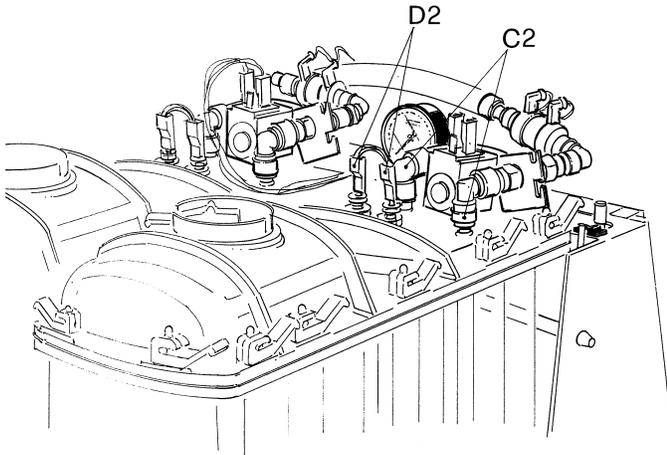
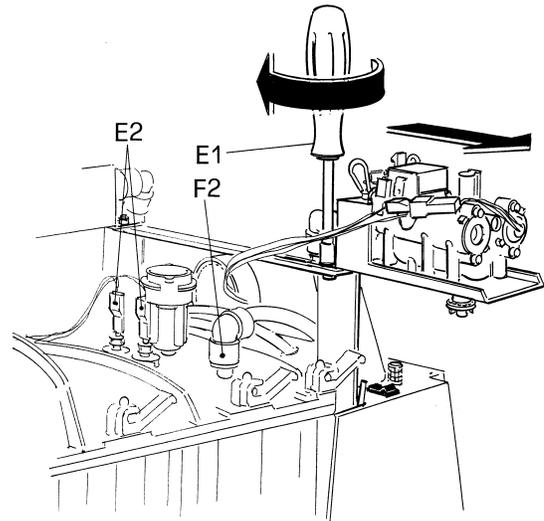
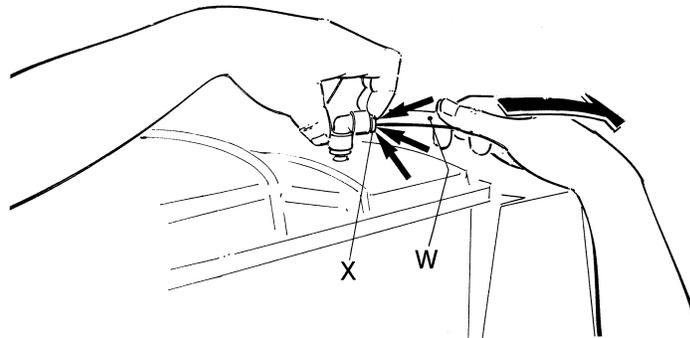

FIGURE 14. Pre-Mix Version
FIGURE 15. Post-Mix Version
FIGURE 16
21. Extract the quick couplings (C2) / (F2) - (FIGURE 14, FIGURE 15, and FIGURE 16).
22. Disconnect the probe fastenings (D2) / (E2) - (FIGURE 14 and FIGURE 15).